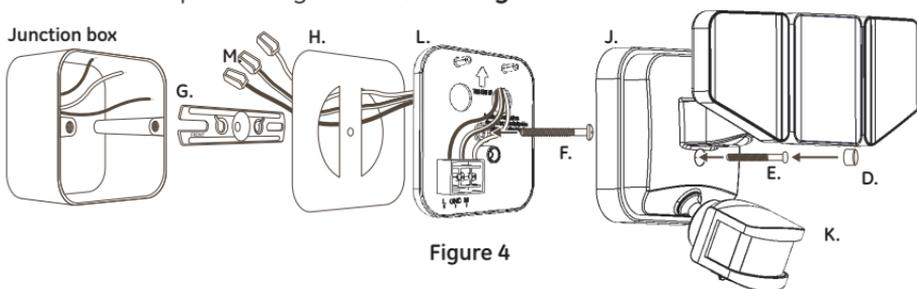

Figure 4
- Route the wires with Push-in quick wire connectors (M) through the provided gasket (H) (see Figure 4).